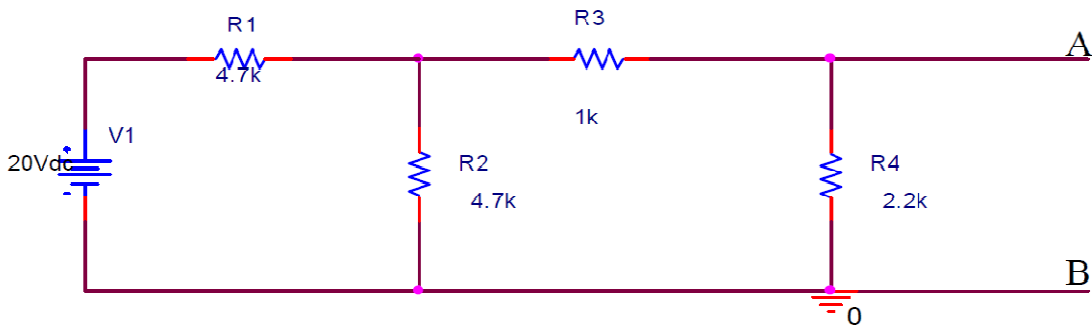

Figure 3: Circuit #3.
Build the circuit shown in Figure 3 in PSPICE, and answer the questions below.
- (1) Simulate the circuit shown in Figure 3 from 0 to 10ms. From the simulation, determine the Thevenin equivalent voltage and resistance with respect to terminals A and B. (Hint – Rerun the circuit with a modification to find the short circuit current.)
- (2) Calculate the Thevenin's equivalent voltage and resistance with respect to terminals A and B
- (3) Compare the results from steps (1) and (2). Find the % error.